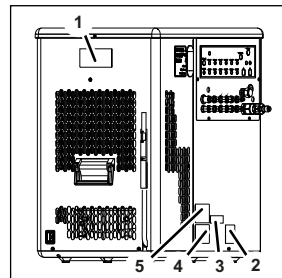

Fig. 8
- Fig. 8/1 Dangerous voltage warning sign
- Fig. 8/2 Refrigerant warning sign
- Fig. 8/3 Python connection warning sign
- Fig. 8/4 Carbonator type plate
- Fig. 8/5 Unit type plate